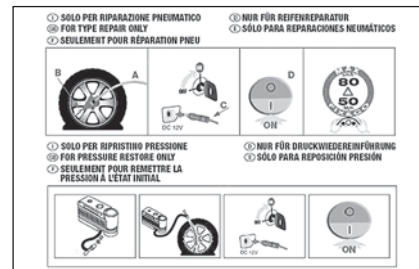

fig. 8
- ☐ instruction brochure (see **fig. 8**), to be used for prompt and proper use of the quick repair kit and then presented to the personnel charged with handling the treated tyre;